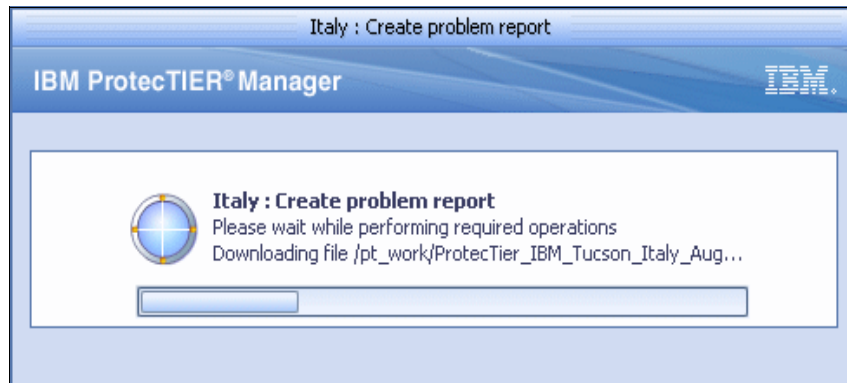

Figure 10-68 Create problem report window
6. Click **Save**. The report file is saved to the selected location (Figure 10-68).